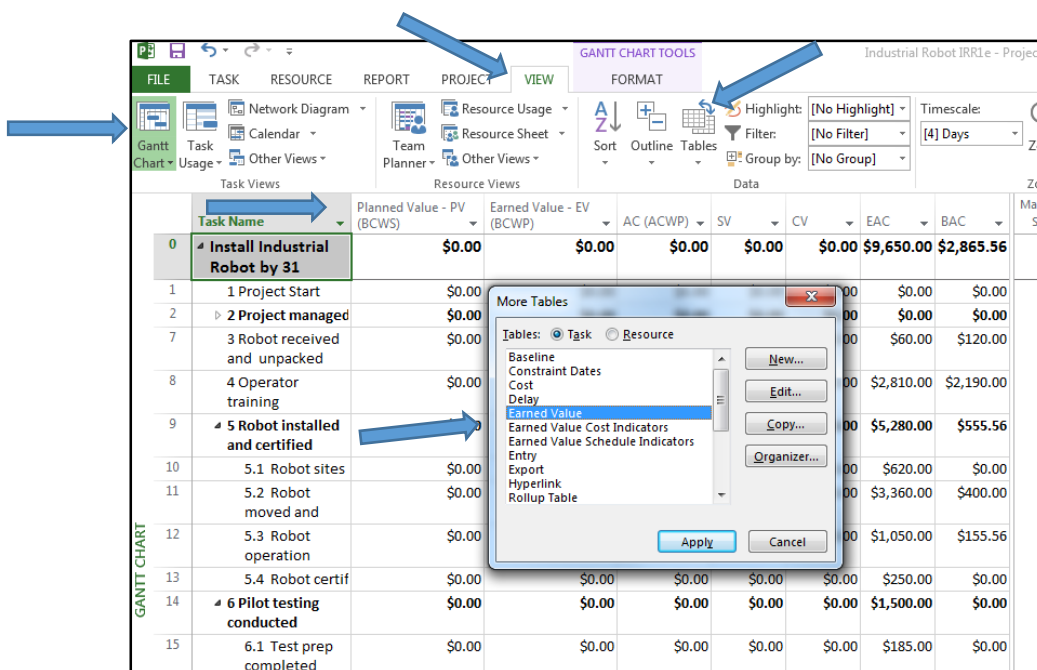

Figure 51
- If you want a detailed report, go to the Gantt Chart. On the View tab, click Tables, choose More Tables, click Earned Value, and then click Apply. You should now be able to see Planned Value, Earned Value, Actual Cost, and variances for Cost and Schedule, Estimate at Completion, Variance at Completion, etc., for each task (Figure 51).